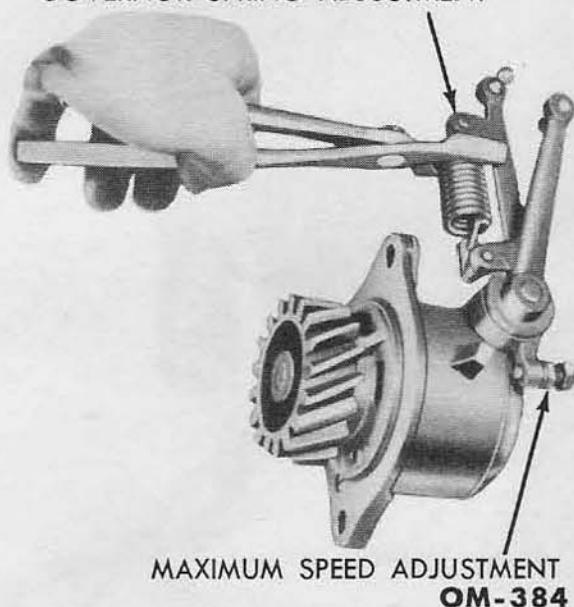

Fig. 49—Governor Spring Adjustment
c. Governor Linkage Adjustment. The governor spring should be a snug fit and should have no end play or preload. The spring may be adjusted by bending the loop on the spring with a pair of pliers as shown in fig. 49.
(1) *ENGINE SPEED OVER 2200 R.P.M.* Manipulate the maximum speed adjustment to give a top speed of from 2000 to 2200 R.P.M. as shown in fig. 49. Lengthen the governor rod so that when the governor arm strikes the maximum speed adjustment, the throttle lever is in the last notch on the quadrant.
(2) *ENGINE SPEED UNDER 2000 R.P.M.* Shorten the governor rod to secure an engine speed of from 2000 to 2200 R.P.M. when the throttle lever is in the maximum speed position (fig. 52). It may be necessary to back off the maximum speed adjustment to adjust the governor rod (fig. 49). Adjust the maximum speed adjustment after the governor rod has been adjusted.